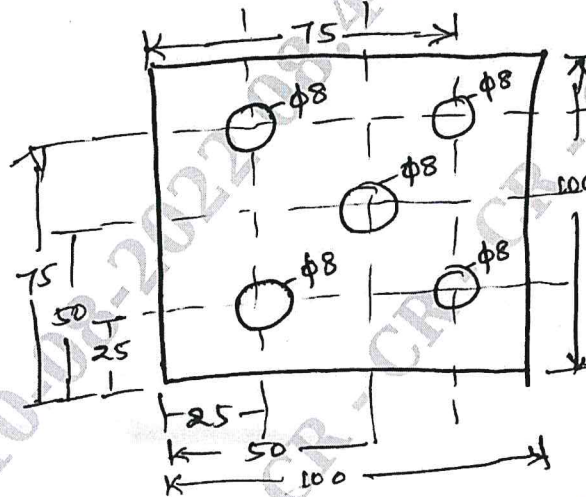

Fig. Q7(b) All the dimensions are in mm.
b. Write a part program for the following Fig. Q7(b). Pick drilling operation. Take drill diameter 8mm. (08 Marks)